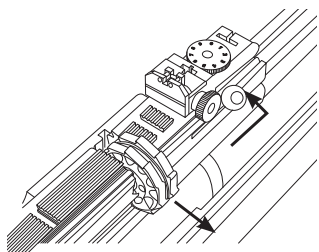

Fig. 8
2. To remove the magazine, pull the cocking lever until it locks and push forward the magazine release bolt and lock it upwards. Then remove the magazine by pulling it to the right. (Fig. 6, Fig 7, Fig. 8 )